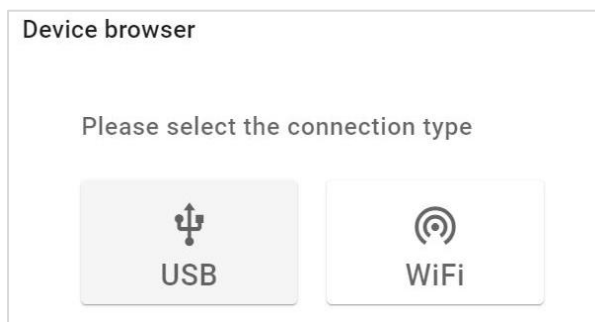

Figure 59
7. Press **CONNECT DEVICE** and select **USB** (Figure 59).